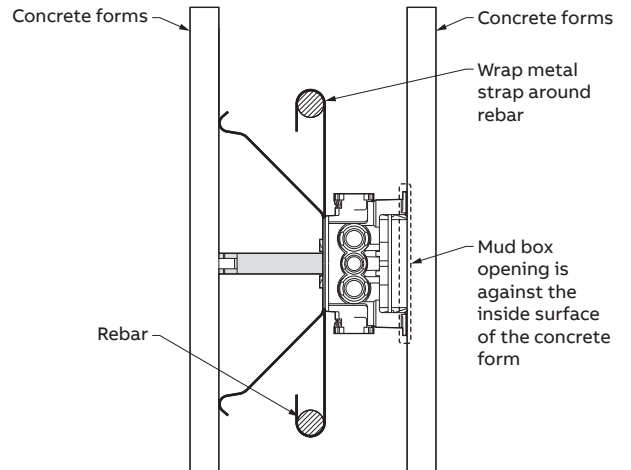

Figure 4
5. Position mud box to desired location then secure assembly by wrapping metal strap around the rebar (Figure 4).